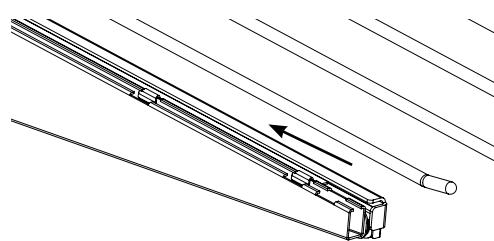

Figure 3
STEP 4: When fully seated, push the assembly towards the wall to secure the tabs to the bracket (**Figure 3**).